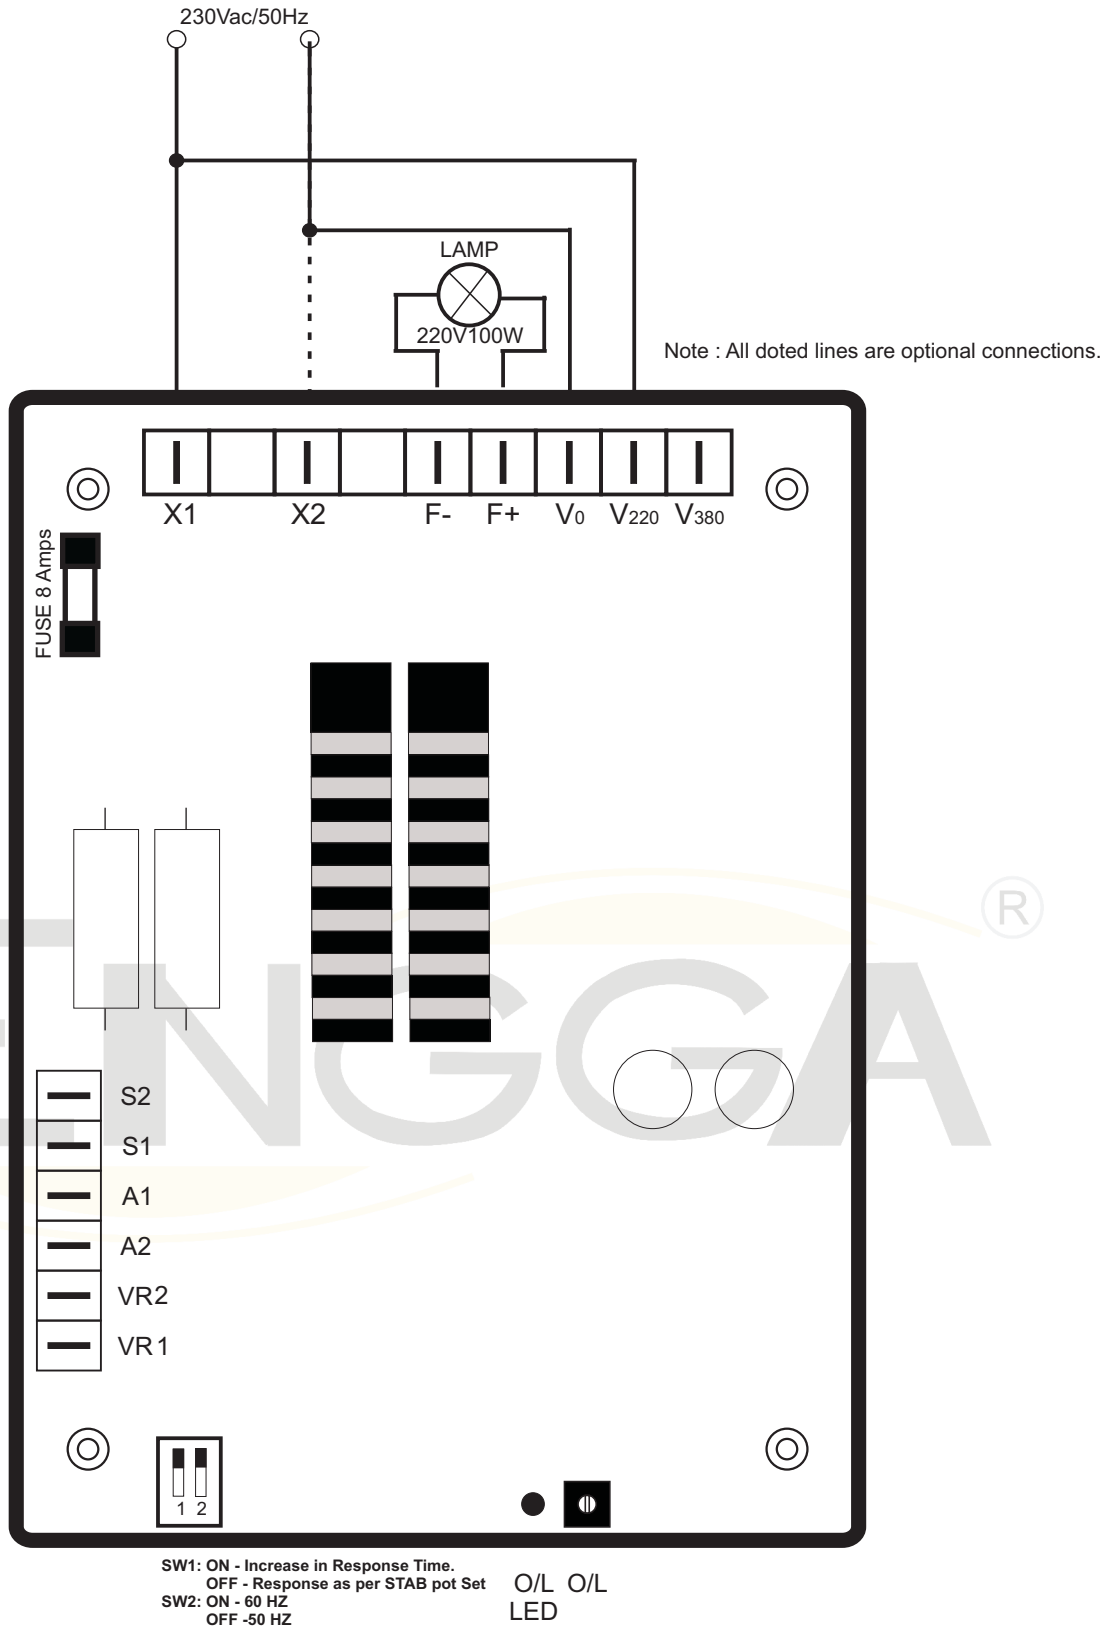

Figure 5. Operational Test
To operationally test any EVC600i, refer to Figure 5 and perform the following steps:
- a. Connect the voltage regulator as shown in Figure 5 and apply 230 Vac 50 Hz.
- b. Adjust the rear panel **VOLT** trimmer fully clockwise (CW).